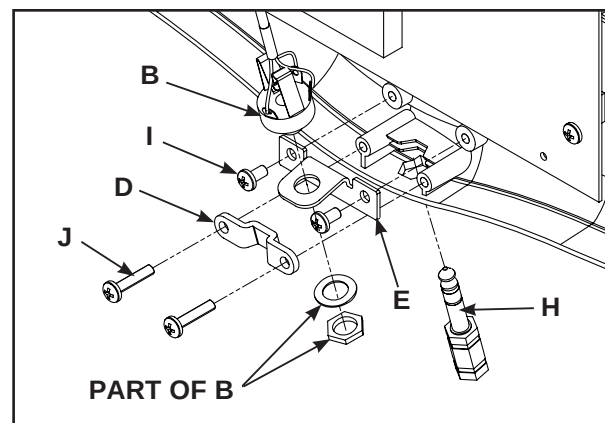

Figure 16
- A. Using a Phillips screwdriver, attach the two screws (I) securing the headphone jack mount bracket (E). See Figure 16.
- B. Attach the audio cable (B) to the headphone jack mount bracket (E) securing it with the flat washer and nut (attached to cable). See Figure 16.
- C. Attach the adapter (H) securing it in place with the headphone adapter clamp (D) and two screws (J). See Figure 16.